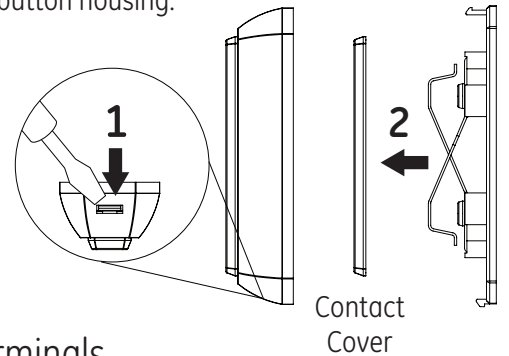

FIGURE 1
- 2) Gently remove contact cover to view screw terminals. (See figure 1)